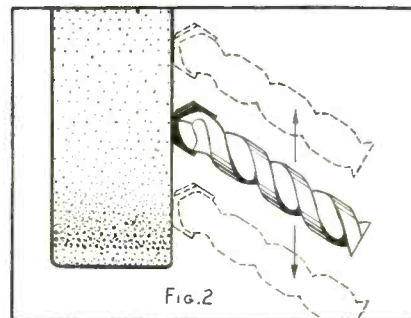

FIG. 2
2. Using moderate pressure, move the drill back and forth across the wheel to avoid overheating (*Fig. 2*). (If overheating should occur, do not drop the drill into liquids to cool.)